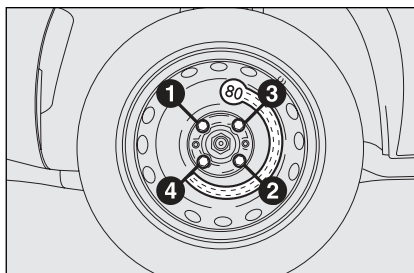

fig. 9
- ☐ using the wrench provided, tighten up the wheel bolts in a criss-cross fashion following the sequence shown in fig. 9.
- ☐ Using the wrench provided, fully tighten the bolts in the sequence shown in fig. 9;
- ☐ Using the wrench provided, fully tighten the bolts in the sequence shown previously for the space-saver spare wheel (see fig. 9).